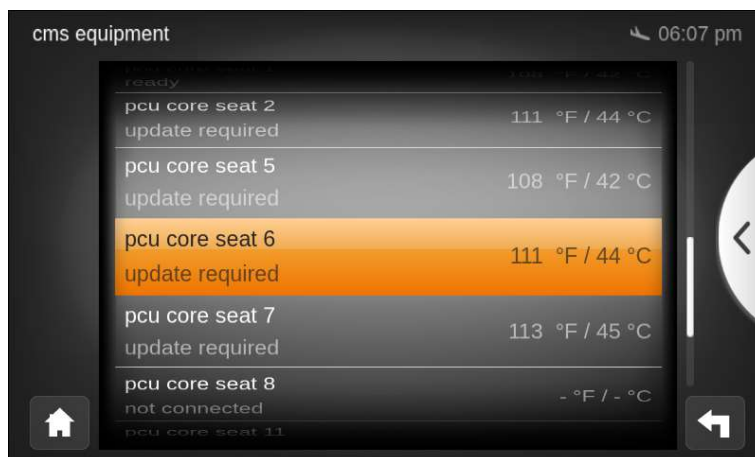

Figure 17: “update required” indication on “cms equipment”
- b. Scroll down until the LRU to be updated is highlighted. Verify that the status is “update required” (Figure 17). If it shows “ready” there is no need to perform the procedure.